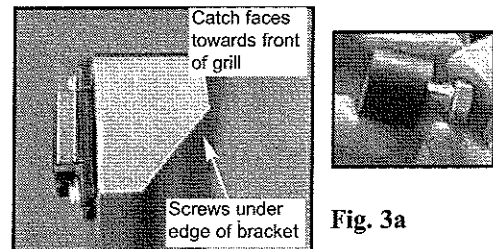

Fig. 3
3. Screw Rubber Cap onto Bolt from the topside of Cart Base and tighten securely. (See Fig. 3)
1. With the grill on its back, (be sure to hold the hood shut when doing this) loosen all 4 bolts on the bottom side of the grill. (See Fig. 3)